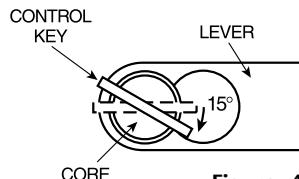

Figure 4
A. Insert key marked CONTROL and turn clockwise approximately 15 degrees. See Figure 4.